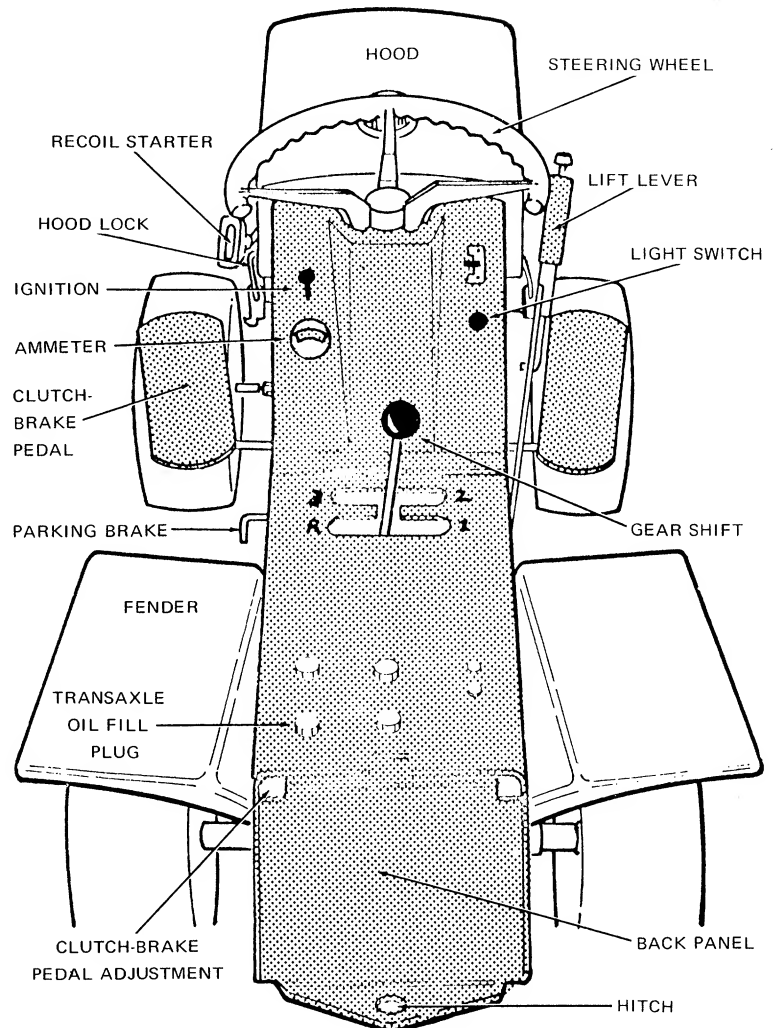

Fig. 7
(See Fig. 7)
2. *Transaxle* — The transaxle is lubricated at the factory with three pints of SAE 90 E.P. oil. When replacing or adding oil fill until it begins to overflow through filler plug. Maintain oil at this level. When checking and lubricating transaxle remove the left rear bolt that holds the transaxle to the tractor frame and add oil through this hole. (see Fig. 7).